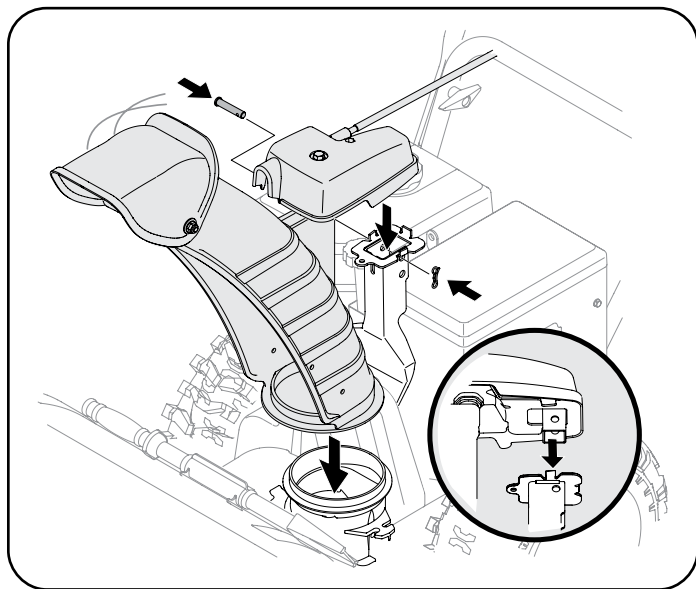

Figure 29
3. Place chute onto chute base and ensure chute control rod is positioned under handle panel. Secure chute control head to chute support bracket with clevis pin and bow-tie cotter pin removed in Step 1. See Figure 29.